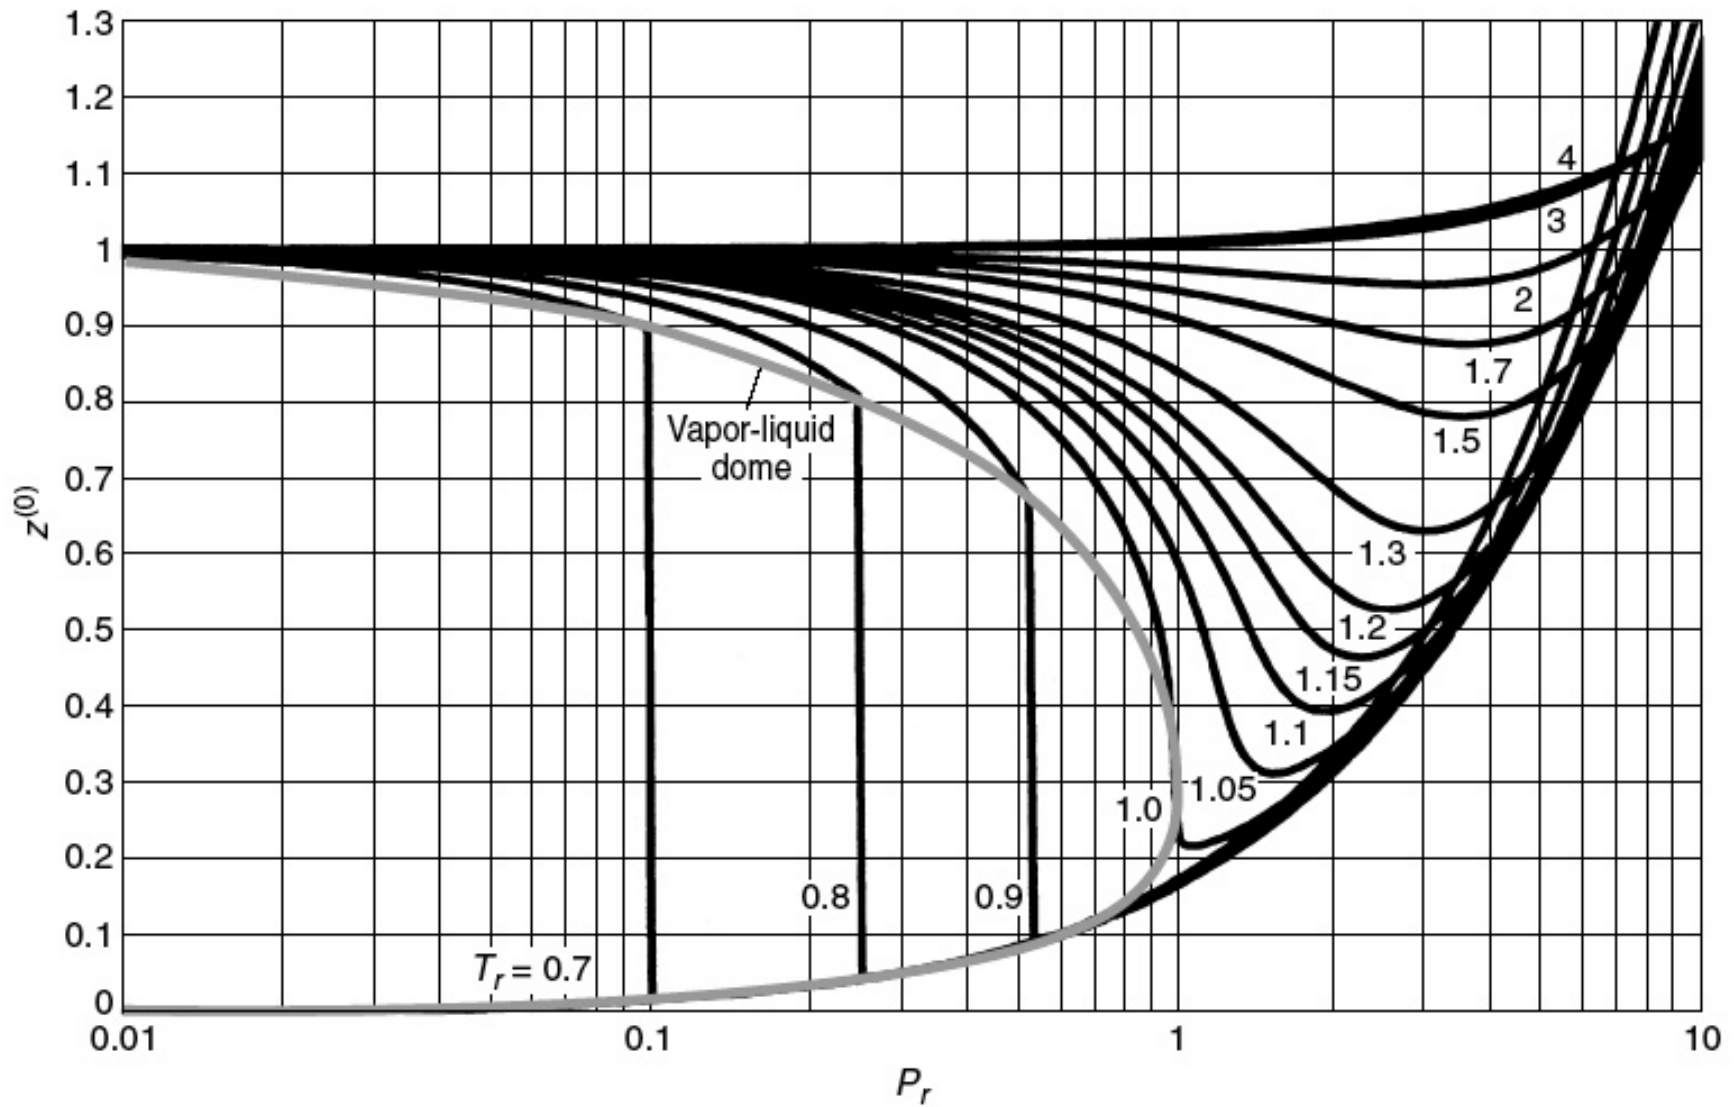

Figure 4.13 Generalized compressibility factor—simple fluid term. Based on the Lee–Kesler equation of state.
- Values of $z^{(0)}$ and $z^{(1)}$ vs. \underline{P}_r at different values of \underline{T}_r are shown in Figures 4.13 and 4.14. The same data are reported in Appendix C.